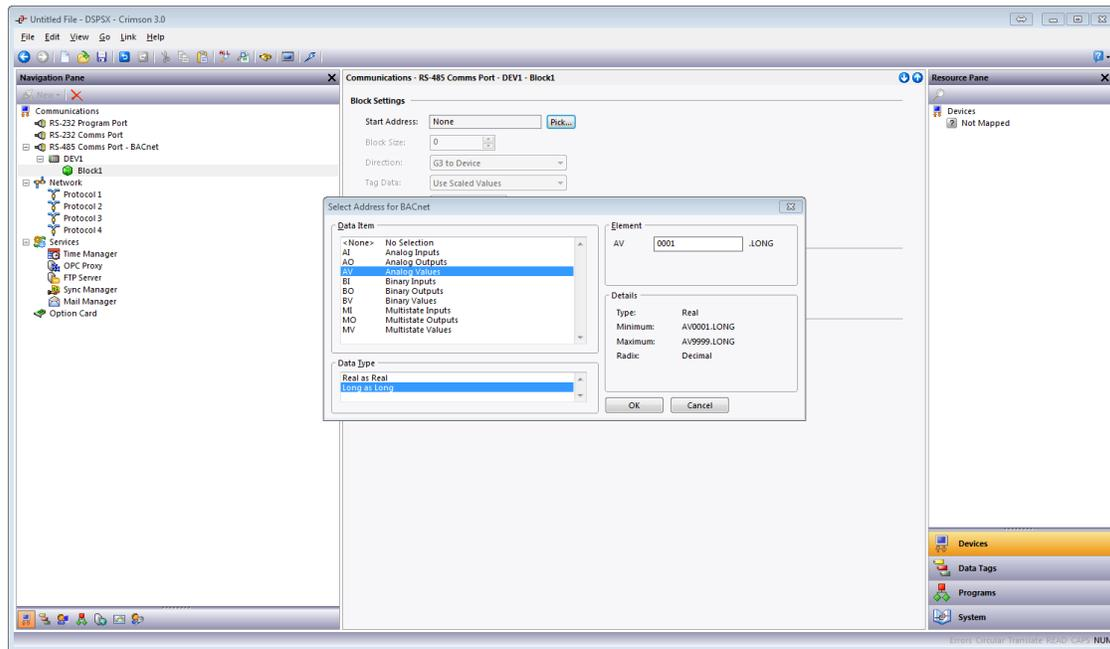

Figure 4.
8. Referring to Figure 4, click on the desired block; *Block1* in this example